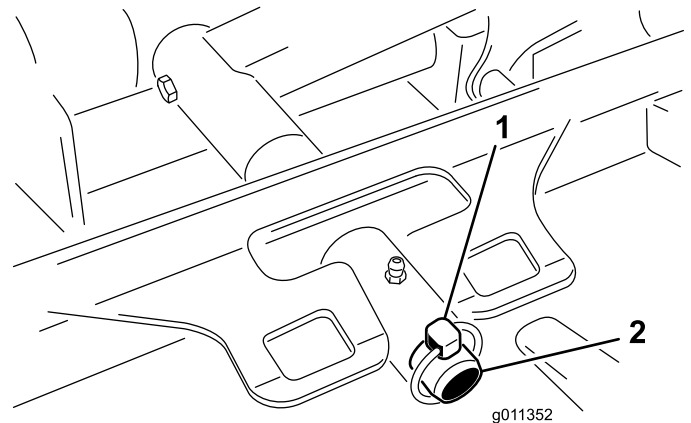

Figure 64
3. Remove the lynch pin securing the deck carrier frame to the lift arm pivot pin (Figure 64).
- Slide deck carrier frame onto lift arm pivot pin. Secure with lynch pin (Figure 64).